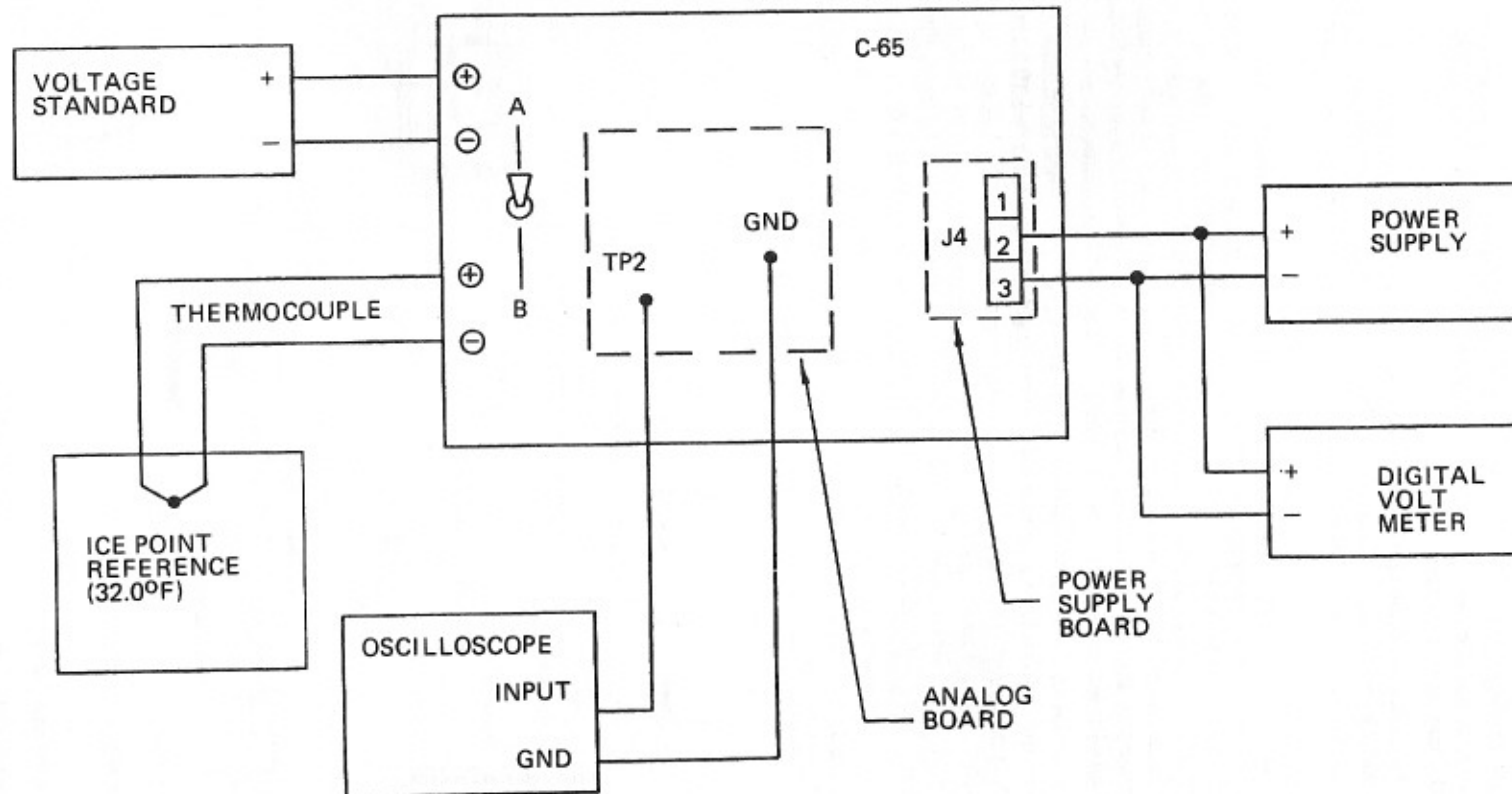

Figure 4-5. Calibration Schematic
To prepare the instrument for calibration, remove the six screws on the front panel. Remove the assembly from the case and disconnect the ground wire from the case. All adjustments are located on the analog card, except for the BTRY LOW adjustment which is located on the digital card. Figure 4-5 shows the location of the adjustments and test points.
4.4.3 Calibration Procedure (See Figure 4-5 for Calibration Schematic)